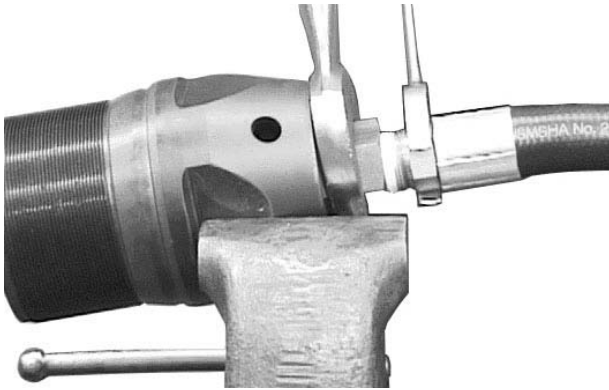

Figure 9-21. Secure Whip Hose to Adapter.
- Use a 1-3/4-inch open-end wrench to hold the Adapter (16) in place, and a 1-3/8-inch open-end wrench to secure
the Whip Hose (18) fitting in the Adapter (16). See Figure 9-21.